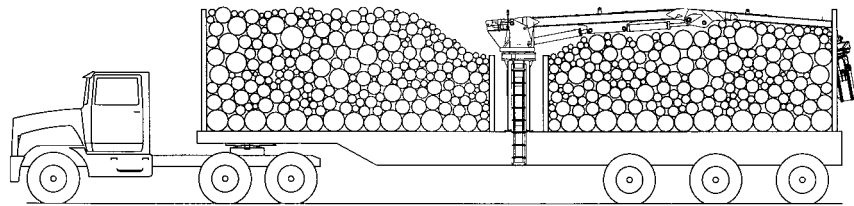
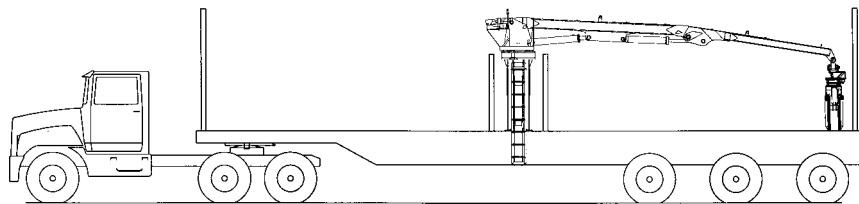

Figure 10
Figure 11
5. Lift the boom from its resting or transportation position by pulling the **left** joystick **back** towards the seat (see *Figure 10* and *Figure 11* on page 34).
If there is no cradle and the carrier is filled with wood, place the booms and grapple in the transportation position shown in *Figure 10*, below.
If there is no cradle and the carrier is empty, place the booms and grapple in the transportation position shown in *Figure 11*, below.